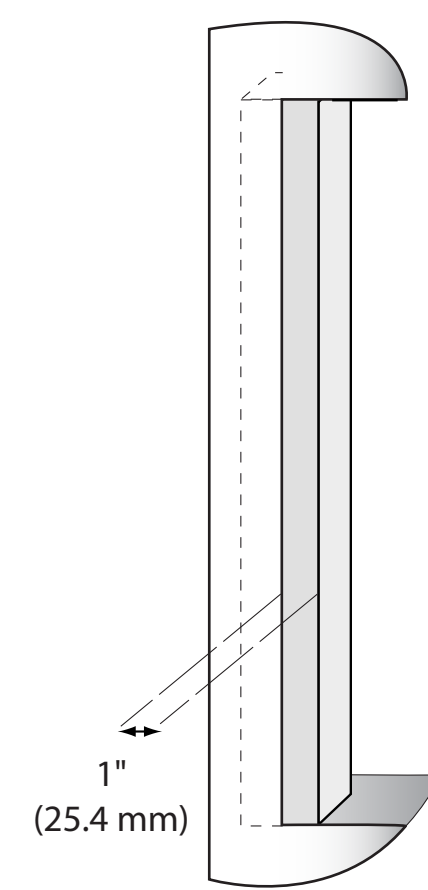
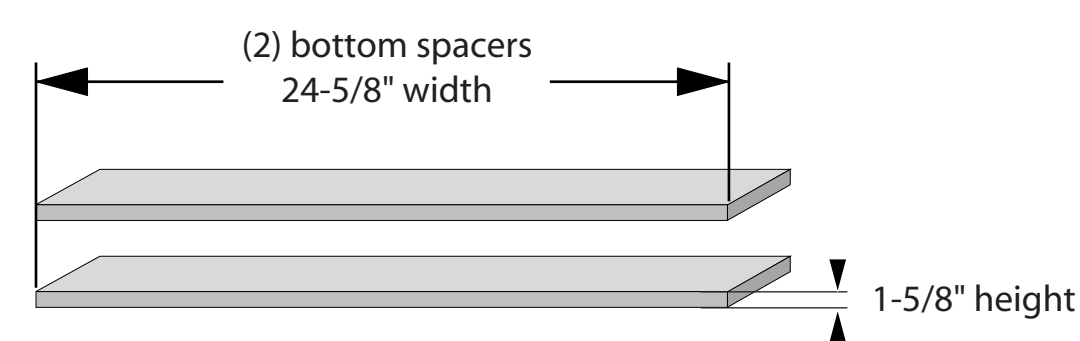
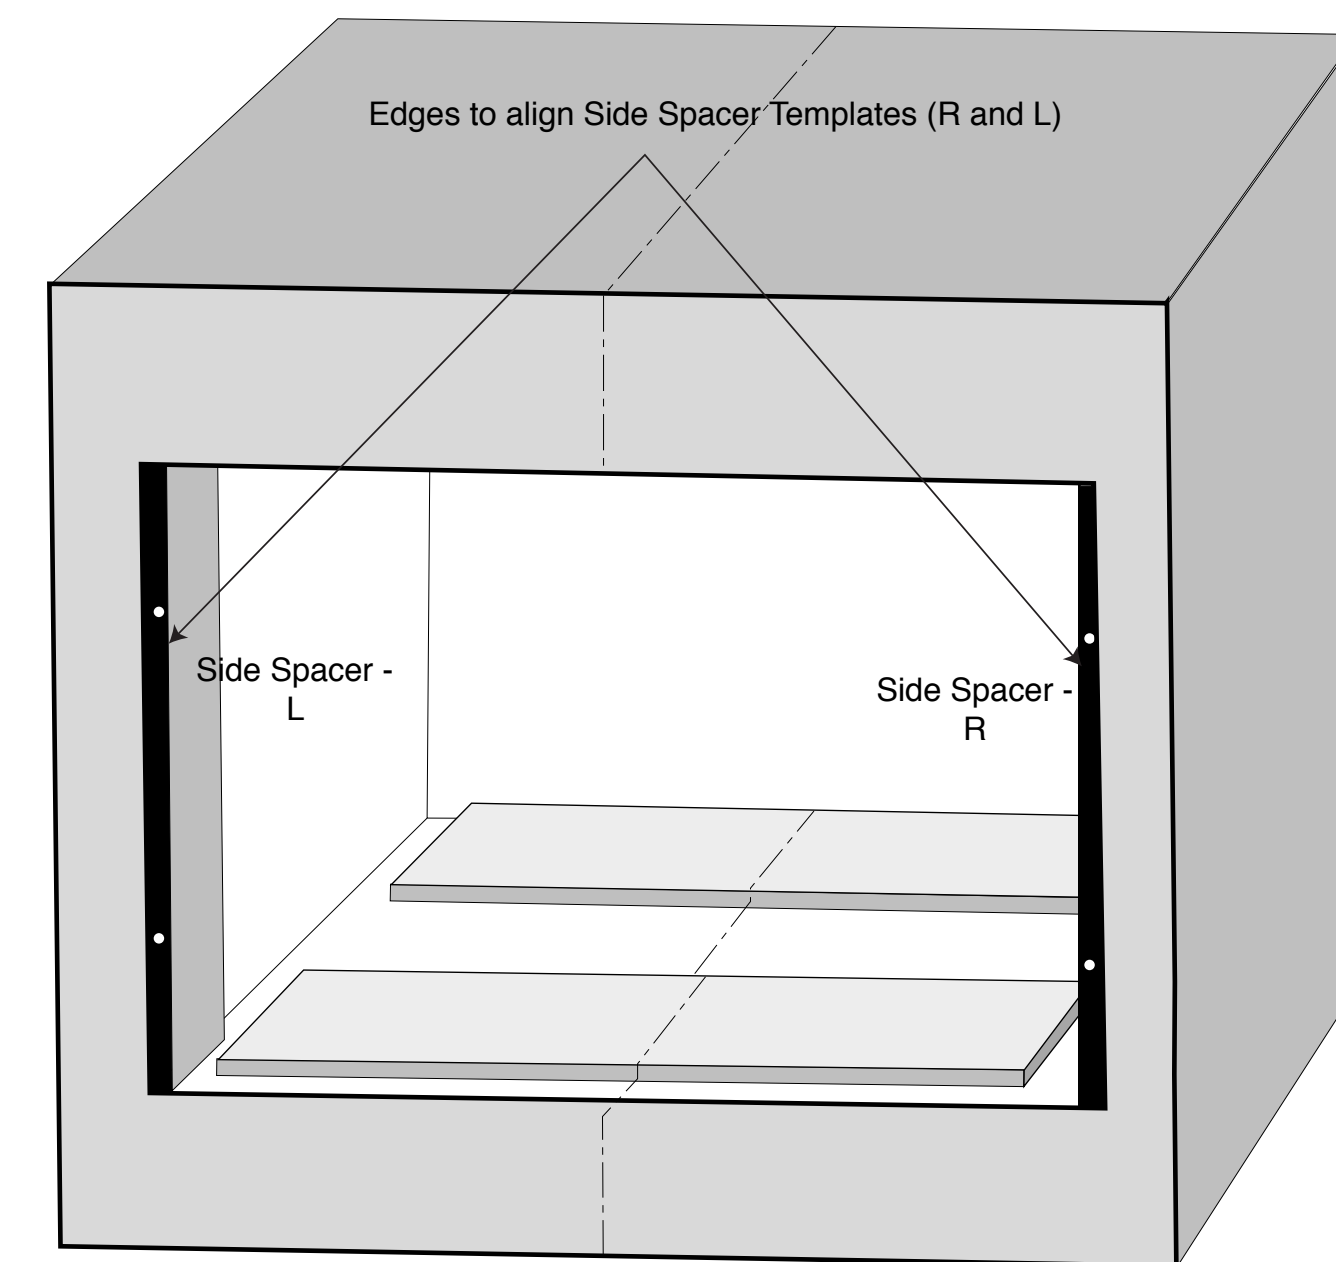

FIGURE 1
FIGURE 2
FIGURE 4 Bottom Spacers centered with cabinet cutout
3. Install two Side Spacers (see FIGURE 1) and two Bottom Spacers (see FIGURE 2) as specified in FIGURE 4.